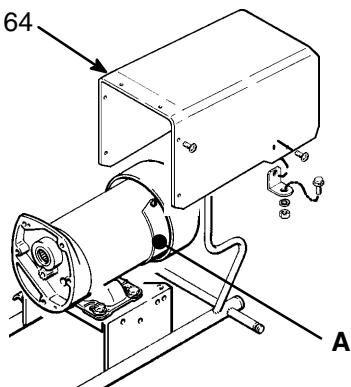

Fig 21–1
NOTE: Replace the brushes when they have worn to less than 1/2 in. See Fig 21–3. Note that the brushes wear differently on each side of the motor, so check them both. Brush Repair Kit 220–853 and Spring Clip 110–816 are available.
1. Remove the motor shield (64). Remove the inspection covers (A) and gaskets on each side of the motor. See Fig 21–1.
2. Push in the spring clip to release its hooks from the brush holder. Pull out the spring clip. See Fig 21–2.
3. Loosen the brush lead terminal screw. Pull the brush lead away, leaving the motor lead terminal in place. Remove the brush and spring. See Fig 21–3.